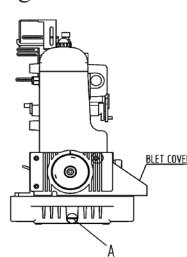
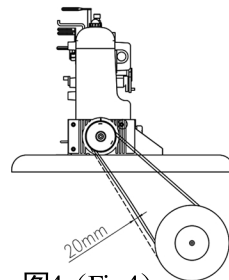

图3 (Fig.3)
图4 (Fig.4)
2、马达转向为顺时针方向，皮带的松紧度以手指向内压下20mm为宜，同时为安全起见，把皮带轮盖必须锁上。（图3&4）
2、Mount the machine head over the rest board. Connect the machine hand wheel to the clutch motor with the V-belt. Adjust the tension of the V-belt so that it can be about 20 mm bent inward when you press the center of V-belt and make sure the clutch motor turning direction is clockwise as shown Figure 3. Install the belt cover according to Figure 4.
（2）润滑油的更换（图3）
2. Lubricant oil change: (Fig.3)